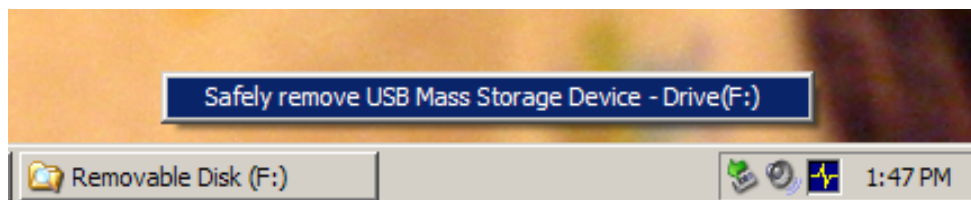

Figure 13. USB Mass Storage Device - Safe Device Removal
4. To disconnect the device, click on the icon with the green arrow in the system tray and select "Safely Remove USB Mass Storage Device". See Figure 13. You can unplug the USB cable from the C8051F340-TB Target Board after you see a message informing you that it is safe to do so. Unplugging the USB cable will restore control to the HyperTerminal-based command interpreter shell.